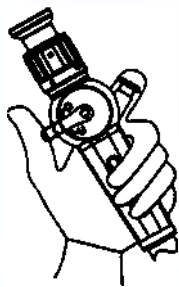

Fig. 3
- (1) To check out the exhaust connect exhaust valve to the aspirator, (not included into delivery set) and set suction of the aspiration no less than 50 kPa.
- (2) Connect exhaust valve to the aspirator and to the aspiration channel on the handle of the nasopharyngolaryngoscope.
- (3) Switch on aspirator. Plunge distal end into the water, regulation of exhaust is done by means of exhaust valve. (see fig.3)